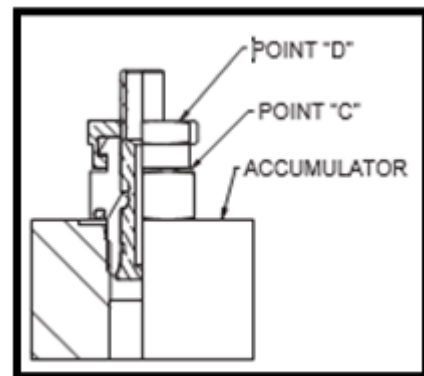

Figure 6
- For the gas valve shown in Figure 6, hold the gas valve at point "C" with one wrench while unscrewing the hex nut at point "D" with a second wrench. This will open the poppet inside the gas valve.
For the gas valve as shown in Figure 6, with a wrench, tighten hex nut at point "D" to close internal poppet (5-8 ft. lbs. [5.7-9.2 cm kg]).